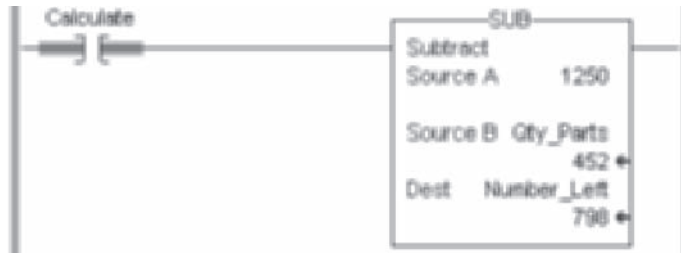

Figure 7-2 Use of a SUB instruction.
The use of an SUB instruction is shown in Figure 7-2. If the tag named Calculate is true, the SUB instruction is executed. Source B is subtracted from Source A; the result (798) is stored in the Dest tag named Number_Left. Source A in this example is a constant (1250). Source B is a tag named Qty_Parts. Qty_Parts has a value of 452. Note that a constant (1250) was used for Source A. A tag could have been used.